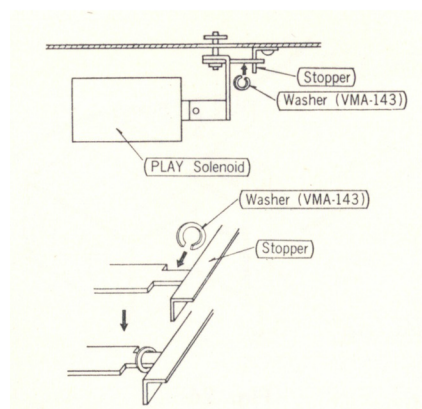
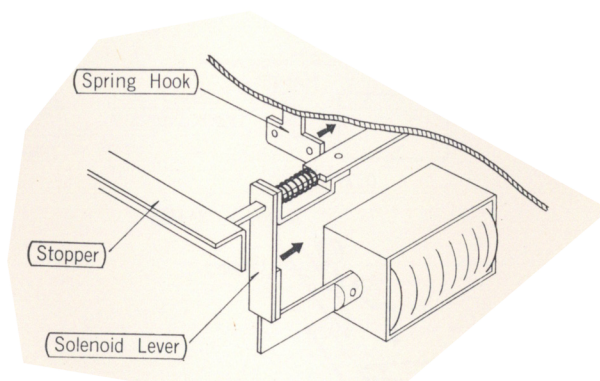

Fig. 24
Fig. 26
- (B) When the contact pressure of capstan against the pressure roller is insufficient due to the lack of hold-back tension of the solenoid, use a washer as shown in Fig. 24.
- (B) If the winding torque (either in FF. or Rewind) is insufficient, bend the solenoid lever in the direction of arrow as shown in Fig. 26.
- (C) If the hold-back tension of the solenoid is still insufficient, bend the spring hook as shown in Fig. 26 in the direction of arrow. When further increase of tension is required, use a washer as shown in Fig. 24.